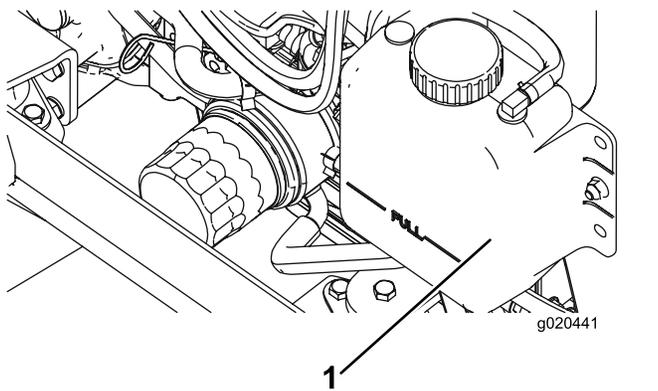

Figure 89
1. Carefully remove the radiator cap and expansion-tank cap (Figure 89).